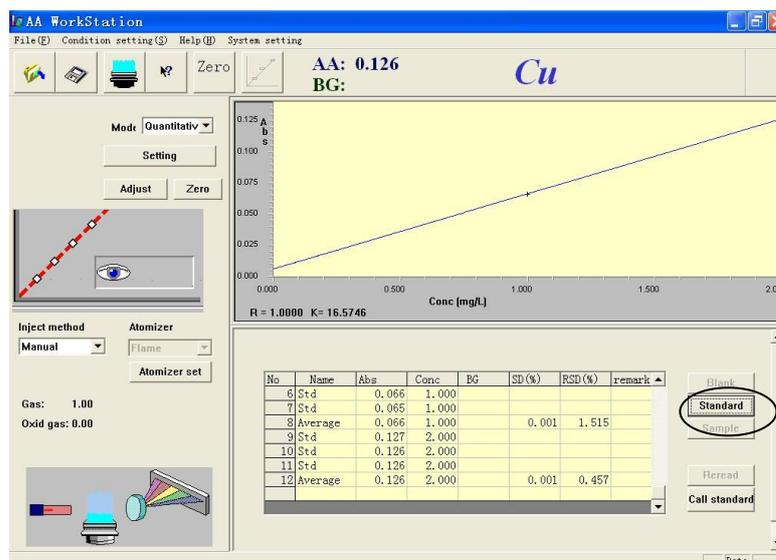

Figure 6-11
- Complete testing of another two standard samples according the methods described above. After the standard sample testing is complete, the screen will appear as shown in Figure 6-11. The standard sample testing is complete.